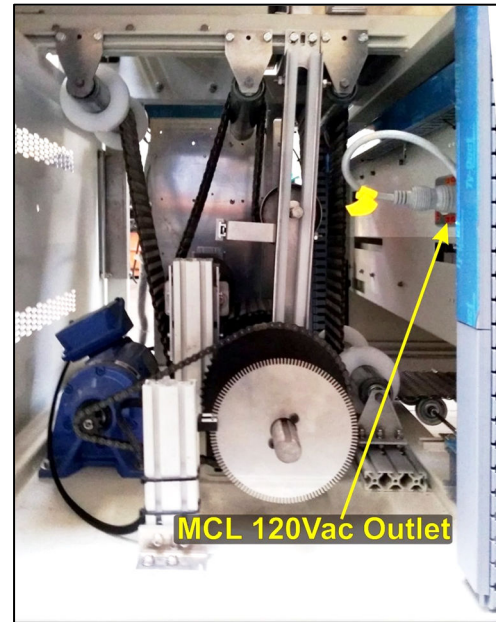

Figure 4-13 MCL Power at Rear Exit
4. Find 120 Vac cable with plug (it may be plugged into the MCL 120 Vac outlet as in Figure 4-13).
5. Remove plug from MCL 120 Vac outlet, Figure 4-13.